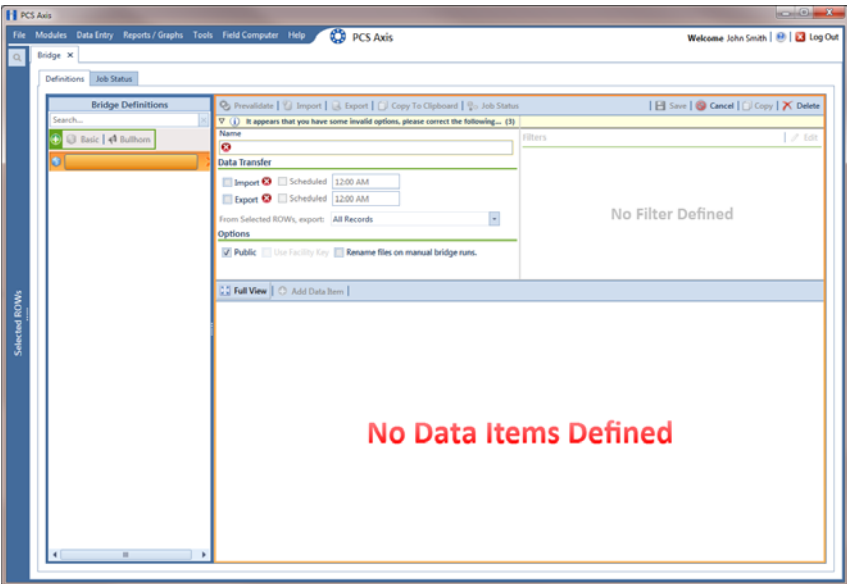

Figure 10-29. Basic Bridge Definition
- 3 Click  **Basic** to open the definition panel (Figure 10-29).